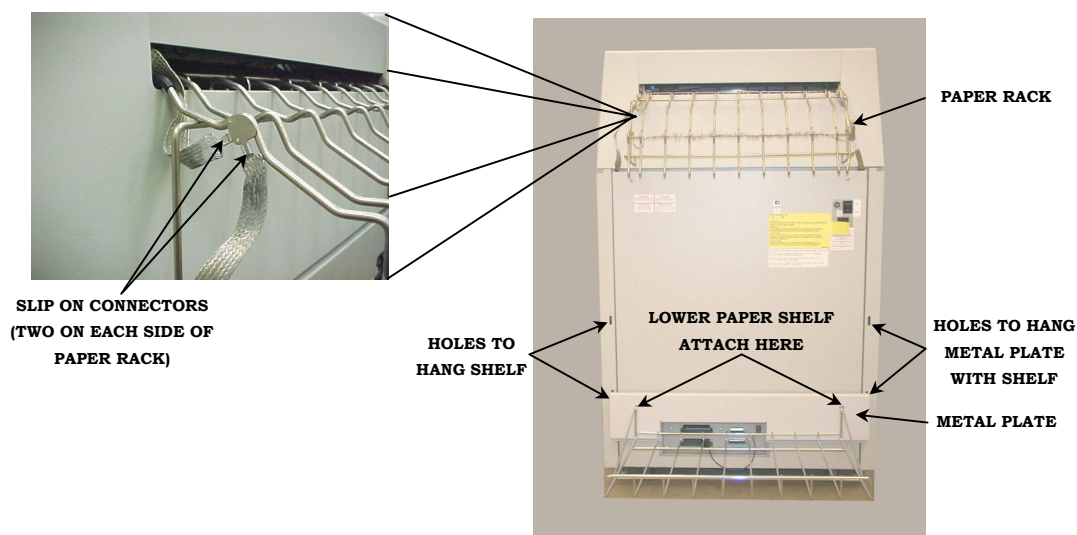

Figure 2-12
The paper handling system for this printer consists of an upper paper rack and a paper shelf with wickets and a stacking aid. See Figure 2-12.
The paper shelf hangs on the metal plate. The metal plate hangs on the back of the printer near the floor. The paper rack hooks onto the opening in the rear of the printer. See Figure 2-12.
1. Hang the paper rack on the back of the printer as shown in Figure 2-12 and connect the four static ground wires to the slip on connectors.
2. Fasten the paper stacking guides to the paper shelf. Attach the paper shelf to the metal plate as shown in Figure 2-12. Hang the paper shelf in the lower set of holes provided in the rear of the cabinet at the outside edges.